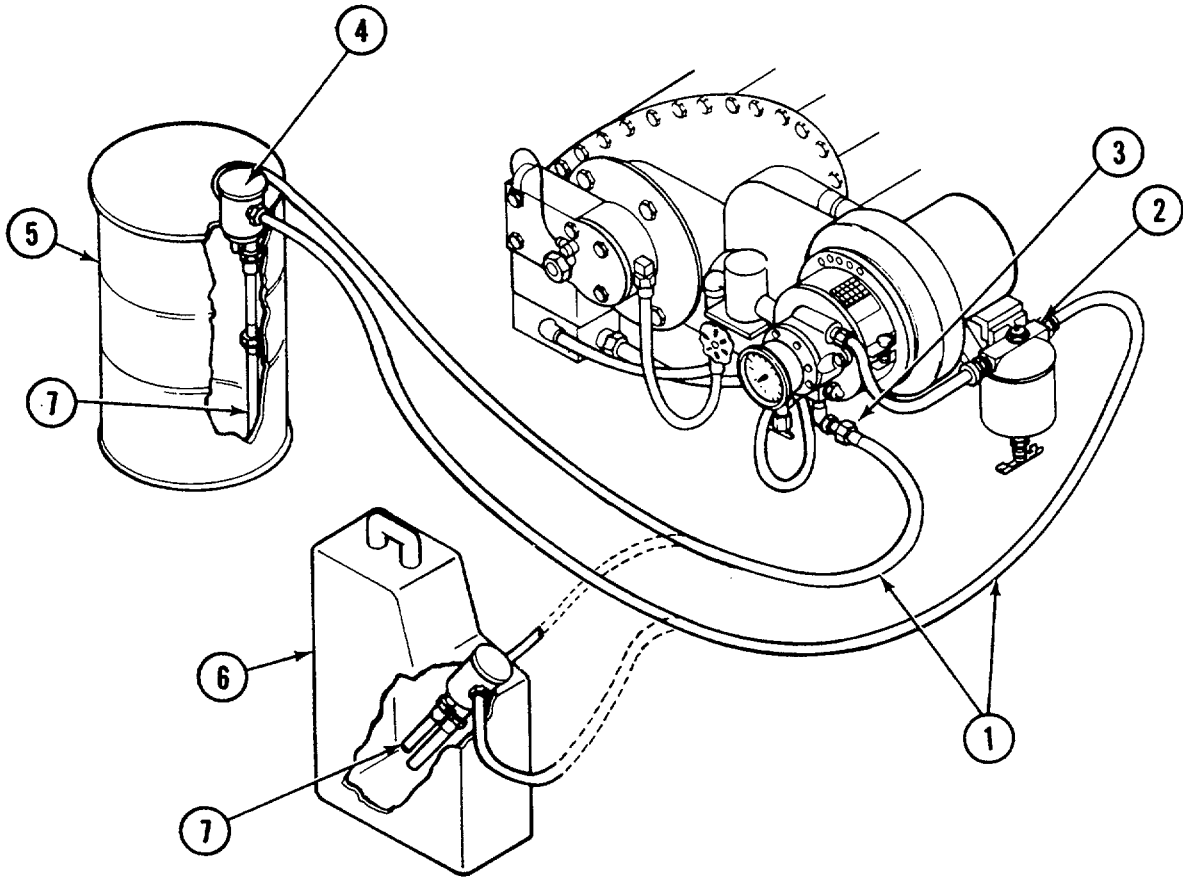

FIGURE 2-14. Dryer fuel line connections.
- (1) Obtain two fuel lines (1, FIG. 2-14).
Ensure that fuel lines (1, FIG. 2-14) do not touch or cross water hoses, power cables, or exhaust ducts. Melting/damage can occur causing leaking fuel and water or electrical hazards. Death by electrocution, fire, or explosion could result.